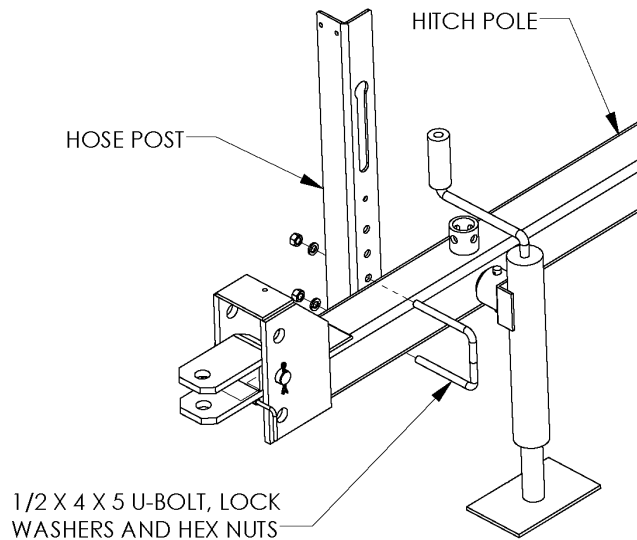

Figure 5
10. Attach the hose post to the hitch pole ahead of the jack. Refer to Figure 5. The post is fastened with a 1/2" x 4" x 5" U-bolt, lock washers, and hex nuts. See Hitch Storage Bracket parts list on page 44 for part details.